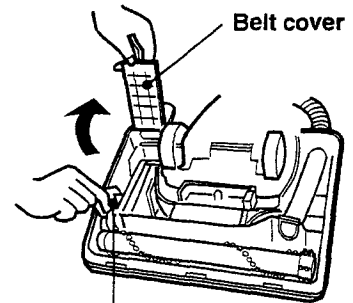

Fig. 28
- 1 After removing the bottom plate, lift up the belt cover and remove the shelter plate. (Fig. 28)